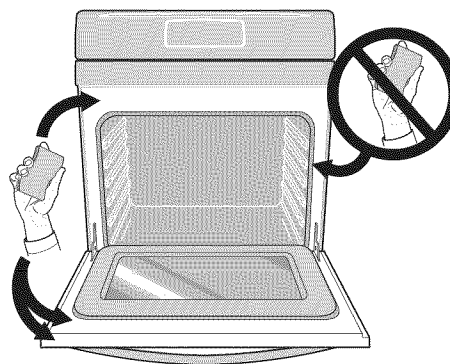

Figure 37: Oven door area to clean and not clean (gasket)
- Clean any soil from the oven frame, the door liner outside the oven door gasket and the small area at the front center of the oven bottom (See Figure 37). These areas heat sufficiently to burn soil on. Clean using soap and water prior to starting Self Clean.
- Do not clean the oven door gasket (See Figure 37). The woven material of the oven door gasket is essential for a good seal. Care should be taken not to rub, damage, or remove the gasket. Do not use any cleaning materials on the oven door gasket. Doing so could cause damage to the door gasket.